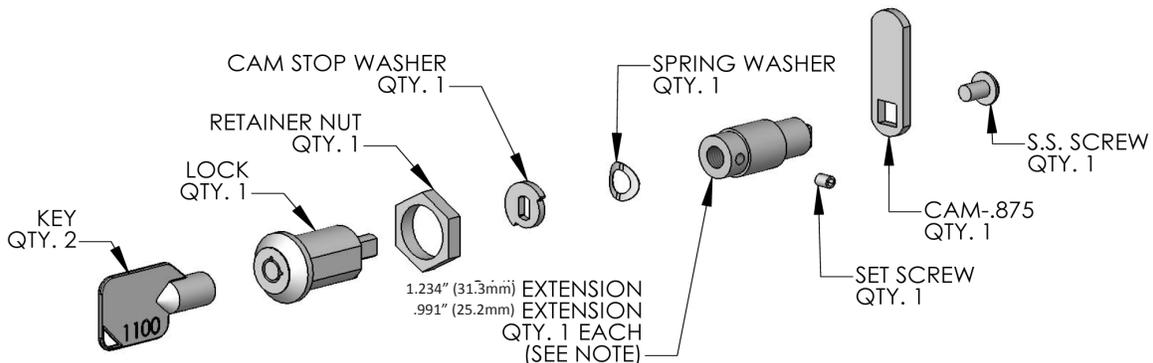

Figure 9
Two (2) lock extensions are supplied with the lock. Use the longer extension for a 3/4" thick overlay panel and the shorter one for a 5/8" thick panel. Assemble the lock extension, cam stop washer, spring washer, and set screw to the lock as shown in Figure 9 and 10.